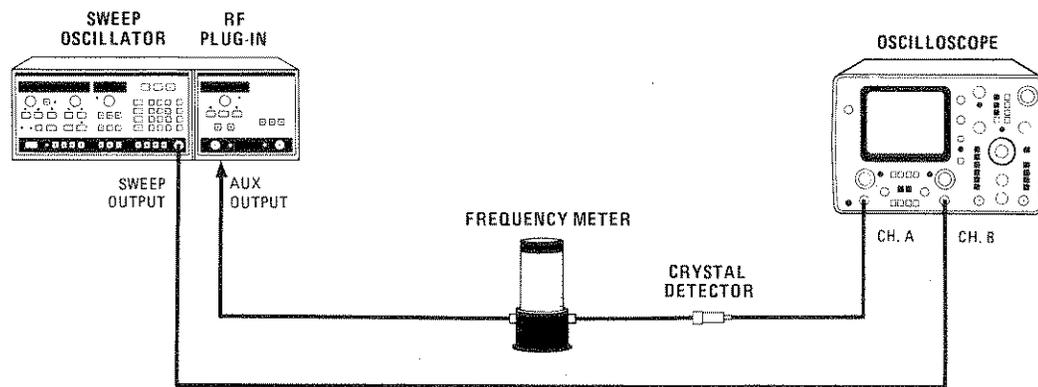

Figure 5-12. YO Retrace Compensation Test Setup
1. Connect the equipment as shown in Figure 5-12 with the Oscilloscope connected through the Detector and the 536A Frequency Meter to the 83595A rear-panel AUX OUTPUT. On the 8350A, press INSTR PRESET , RF BLANK . Allow the equipment to warm up for one hour.